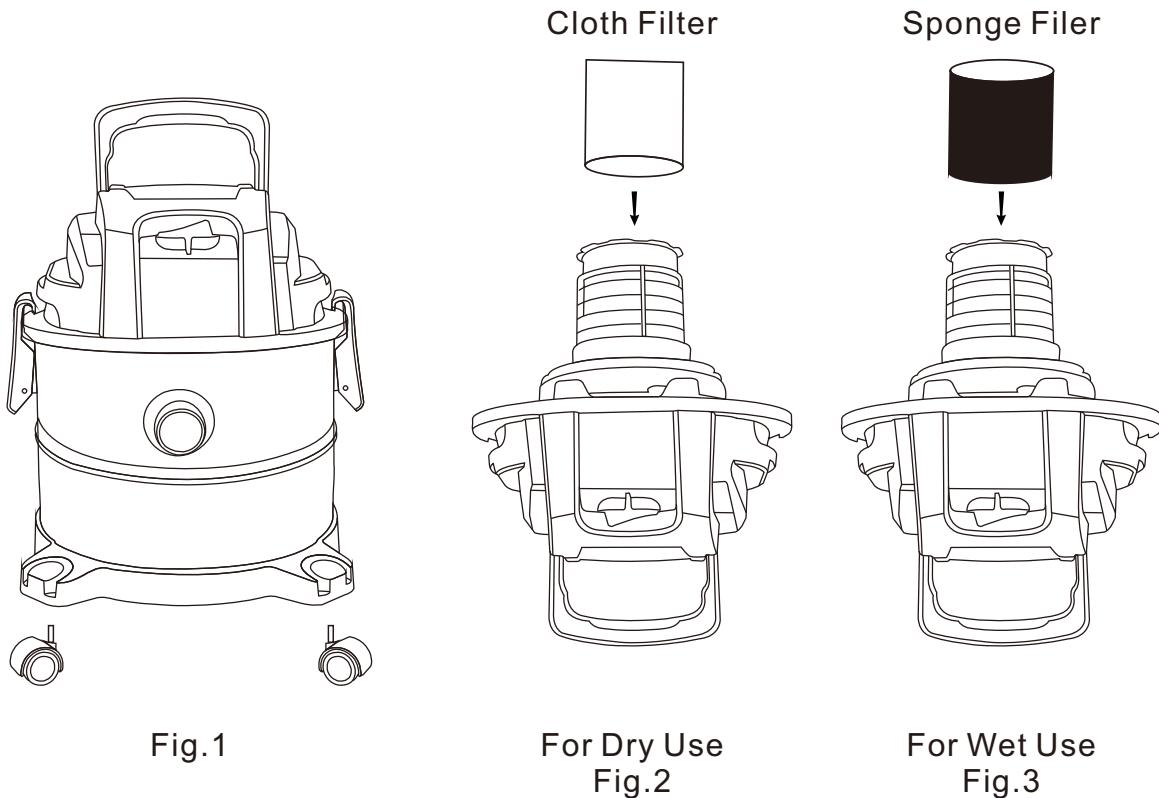

Fig.1
1. Remove the tank cover by pushing in the side lugs with thumbs and lifting up on the tabs of the tank cover (Figure 1).
- Invert SS Tank to install wheel. Insert the four wheels into the socket of wheel base. Be sure that wheels spin freely.(Fig.1)